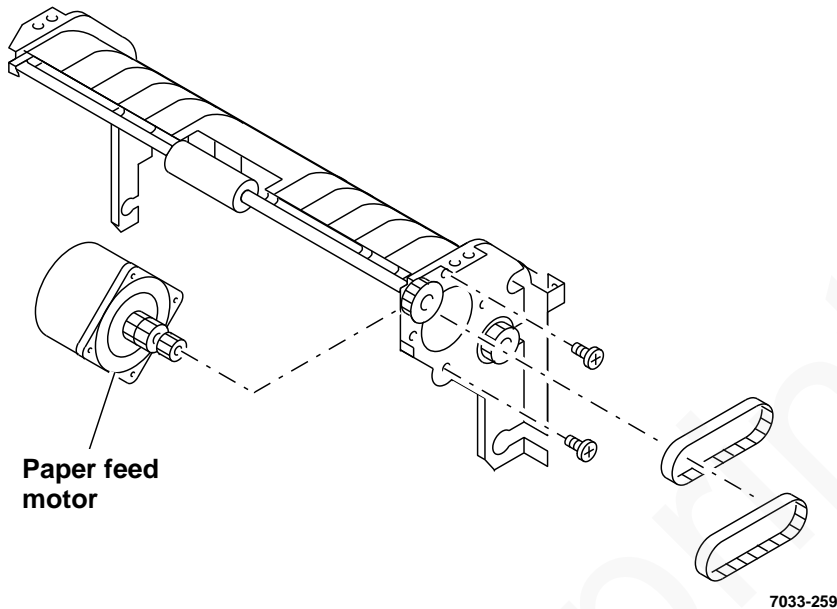

Figure 10. Paper feed motor removal
- a. Remove belts from paper feed motor pulley (Figure 10).